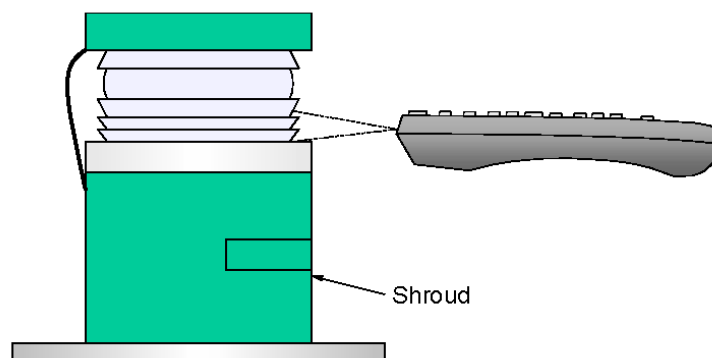

Figure 1.
- **Aim the controller at the lower portion of the lens, as shown in Figure 1.**